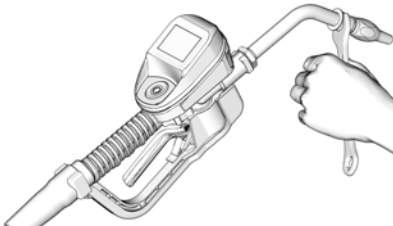

FIG. 12
2. With an open-end adjustable wrench on the flats of the nozzle bushing, tighten firmly (FIG. 12).
- To prevent damaging nozzle, *only* tighten nozzle with wrench on flats of the nozzle bushing as shown in FIG. 12.